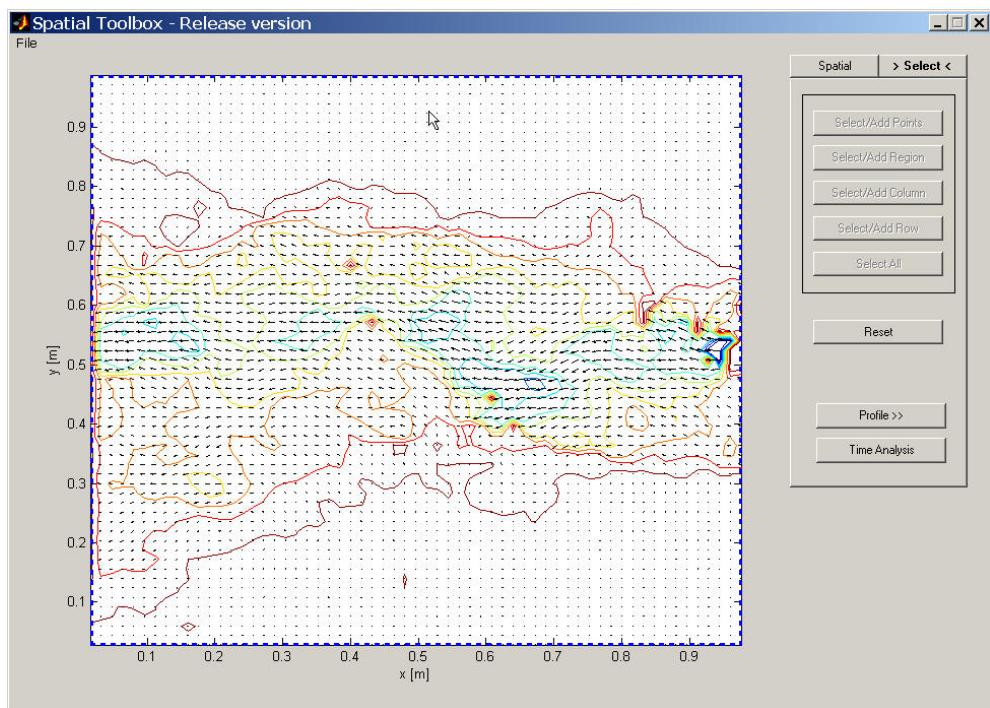

Figure B-11
- Click **Select All** to select the entire row, as shown in Figure B-11.